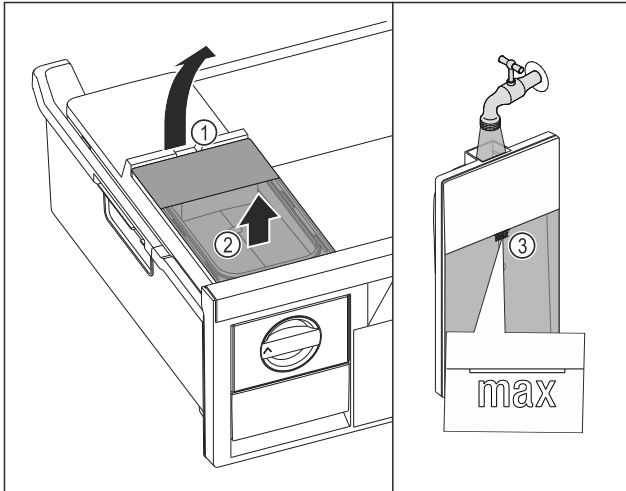

Fig. 112
- ▶ Lift the water tank at the recess Fig. 112 (1).
- ▶ Remove the water tank by lifting it upward. Fig. 112 (2)
- ▶ Fill the water tank with drinking water up to the mark Fig. 112 (3).